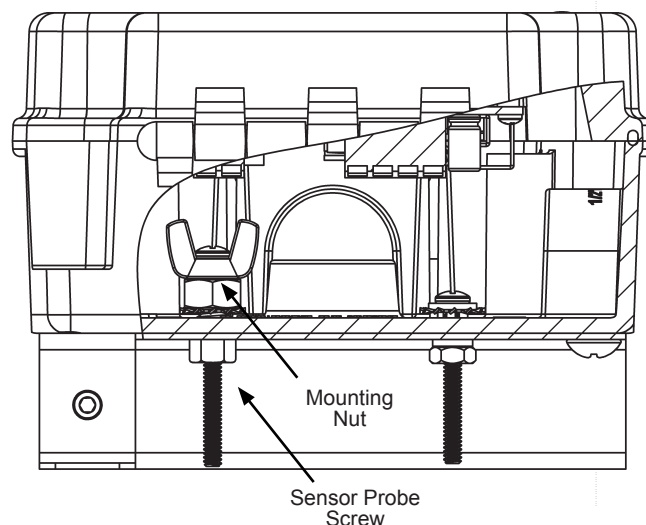

Fig. 5: Leak Detector with Sensor in a BAPI-Box
1. Set the transmitter where water is most likely to be a problem or in the collection pan under the water coil or heater (Fig. 5).
2. Adjust the depth screw on the sensor probe in the middle of the open enclosure to the alarm depth (Fig. 5). If using a remote water sensor, adjust the depth screw as shown in Fig. 9. The rope sensor detects water 1/8" off the floor and has no adjustment.